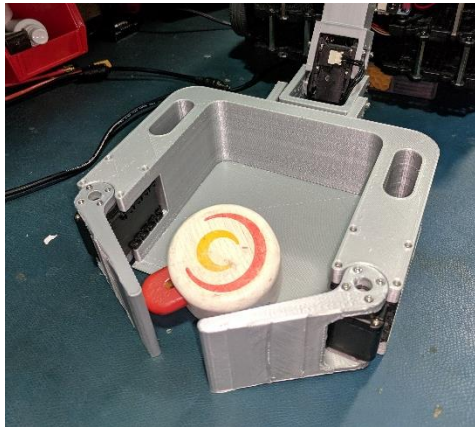

Figure 1 CuBi tray and "caging" strategy
1. In the last report, I raised the option of exploring different kinds of gripping techniques to potentially enhance CuBi's capabilities. After discussing with my team, we all concluded to keep our current "caging" manipulation strategy and tray design, Fig 1, since it is the best option.